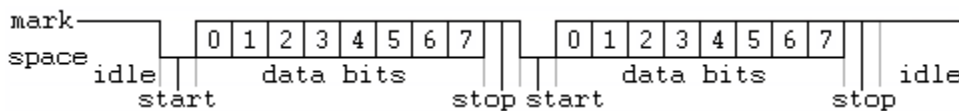

Figure 7.2: RS-232 transmission protocol. Public Domain:
Note: Figure 7.2 shows the RS-232 serial bit-stream that includes signaling bits that are used to help the sender and receiver communicate.
communication. Without a clock, special signaling schemes (i.e. start and stop bits) are used to help the sender and receiver communicate with each other. This adds additional complexity and the overhead by adding extra bit results in less data transmitted in a given time (i.e. less throughput) [32]. Figure 7.2 shows how the bits are ordered in RS-232 transmission. This is called asynchronous communication since there is no master clock that governs the transmission. During the idle times between transmissions the line is held at a digital logic high level (Binary 1). The voltage levels required by the RS-232 standard are shown below [14]. The logic is an active low style, where a binary 0 (i.e. space) results in a positive voltage and a binary 1 (i.e. mark) results in a negative voltage:
In addition to the **start and stop signaling bits** shown in Figure 7.2, a **parity bit** that is frequently added to the RS-232 bit stream. Parity is a rudimentary form of error checking that is frequently used in RS-232 and other forms of communication. As demonstrated in examples 7.2 through 7.4, parity checking can be used to catch an odd number of bit errors in a stream of data bits, but cannot catch an even number of bit errors. The downside of including a parity bit is that there is additional overhead to the data transmission process [21, 22, 36].
Note: Figure 7.2 shows the number of data bits is 8 (bits 0 to 7), but depending on the application it could be set to any number of data bits. For example, a commonly used RS-232 transmission type is sending ASCII symbols that only require 7 bits (see the ASCII Table in Figure 1.4). With only 7 bits needed in this application, the parity bit could be added and the total number of bits for data and parity would fit into one byte (i.e. 8 bits). Example 7.4 demonstrates this type of transmission.
- (2) **Data Bits** – Figure 7.2 shows the number of data bits is 8 (bits 0 to 7), which is the default number of data bits value used in LabVIEW.
- (3) **Parity** – The default setting in LabVIEW is for no parity to be used (i.e. None), but if parity is implemented then usually Odd parity or Even parity are used, but there is also the option of mark or space.
- (4) **Stop Bits** – As shown in Figure 7.2 the logic level returns to a logic high (1) after the data is transmitted. The default is 1 stop bit, but LabVIEW allows 1.5 and 2 as other options. Start bits are also used, but there is always one start bit so there is no reason for it to be configurable. Together, the Start and Stop bits are often called “framing bits” that add additional overhead to the data transmission.
- (5) **Flow Control** (Also called handshaking) – RS-232 can employ a back and forth protocol to govern the data transfer process. The most common method is the Ready to Send (RTS), Clear to Send (CTS) flow control method. In RTS/CTS, the sender asserts the RTS line low to tell the receiver it is ready to send the data, and then the receiver asserts the CTS line low to tell the sender it is ready to receive the data [21, 23, 24].